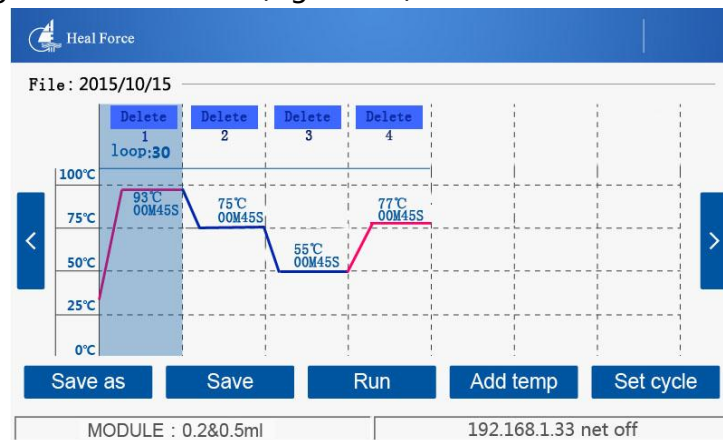

Figure 4-9
Step 4: Creating the file is finished.(Figure 4-9)
Click the "File" on the "main menu" interface to get into the "File" interface (Figure 4-10), click the file that you need to get into the "file edit" interface(Figure4-11),then click the "Run" to start running. **click "run" then the program that you choose is running immediately(Figure4-9).**